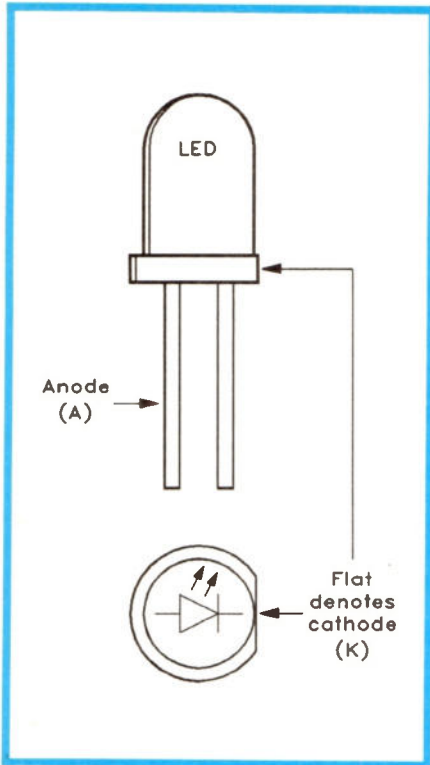

Figure 3. LED symbol and connections.
b) Next fit the LED, LD1, which is a 'blob' of clear red plastic, with two wires coming out of one end. It is fitted in the position shown on the guide-sheet, and *must* be connected the right way round – or it will not light up. One side of LD1 is flattened (the lead on this side of the LED is known as the cathode (K), while the lead on the other, rounded, side is called the anode (A)), see Figure 3. Make sure that LD1 is fitted so that the 'flattened' side lines up with the drawing of the LED printed on the guide-sheet.